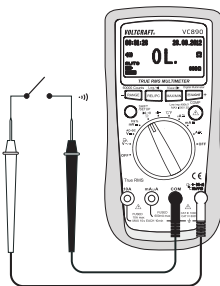

Fig. 7
1. Turn on the DMM and select the measuring range " $\Omega$ ". Press the SHIFT/SETUP button (3) until the continuity test symbol  $\rightarrow$  appears.
2. Insert the red test lead in the " $\text{CHzV}\Omega$ " measuring socket (7), the black test lead in the COM measuring socket (8) (Fig. 7).